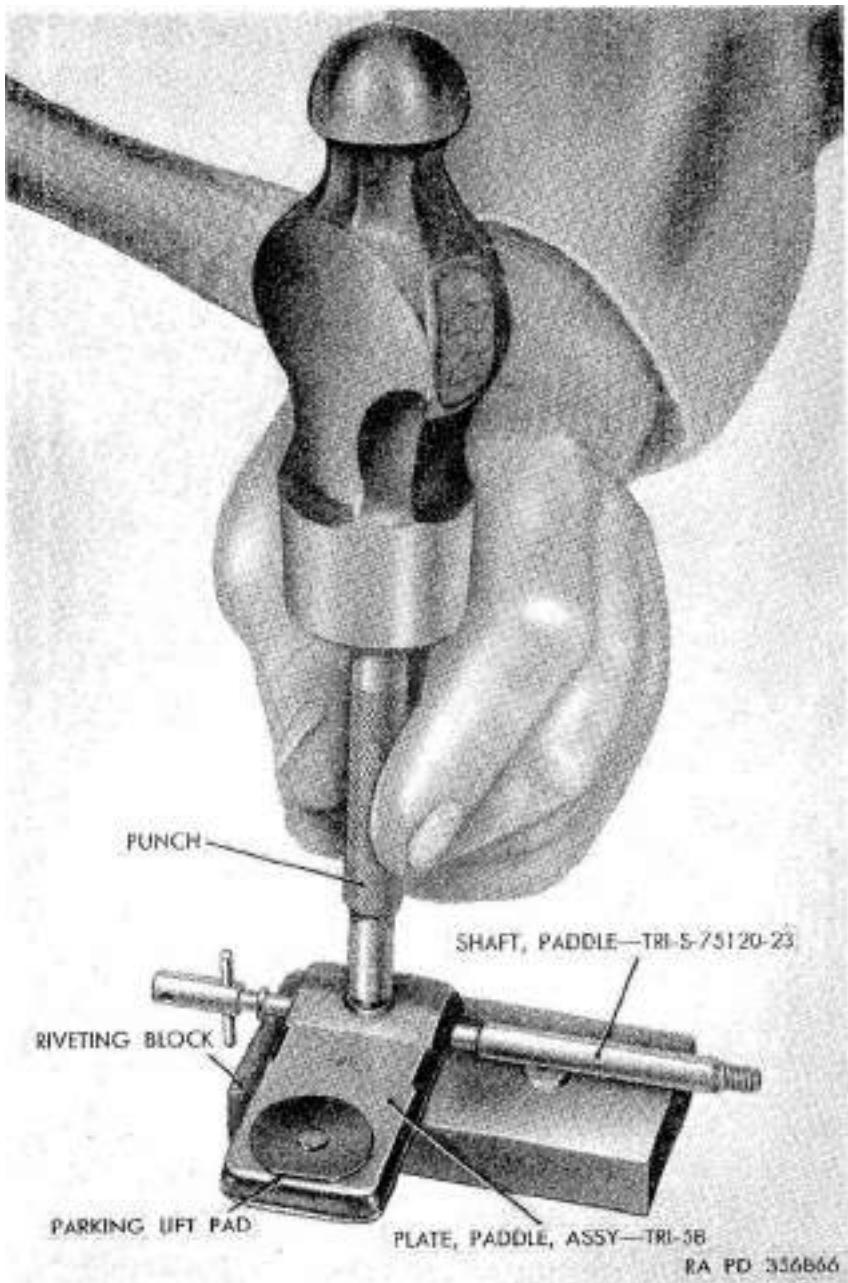

Figure 193. Setting rivet with punch and riveting block from kit—*Kit-R-280*.
- (1) Swing new paddle plate assembly (KK) open and pack interior with Trico wiper lubricant and close paddle plates.
- (2) Hold paddle plate assembly (KK) with parking lift pad (*fig. 193*) up and insert paddle shaft (FF) through paddle plate assembly with short end of shaft at left. Place metal washer (MM) on rivet (LL) and insert rivet through paddle plate and paddle shaft. Install other metal washer (S) and set rivet with punch and riveting block (*fig. 193*) from kit 14-K-280.